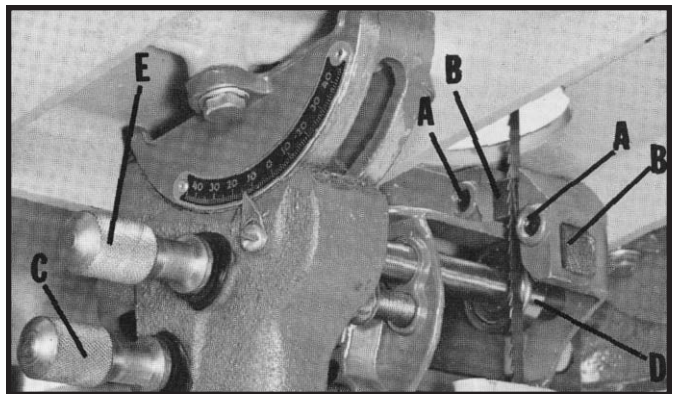

Fig. 24
1. Loosen the two screws (A) Fig. 24, and move the guides (B) as close as possible to the side of the blade, being careful not to pinch the blade. Then tighten screws (A).
2. The front edge of the guide blocks (B) should be adjusted so they are just behind the "gullets" of the saw teeth by turning the knurled knob (C) Fig. 24.
3. The lower blade support bearing (D) Fig. 24, should be adjusted so it is about  $1/64$  behind the back of the blade by turning the knurled knob (E).